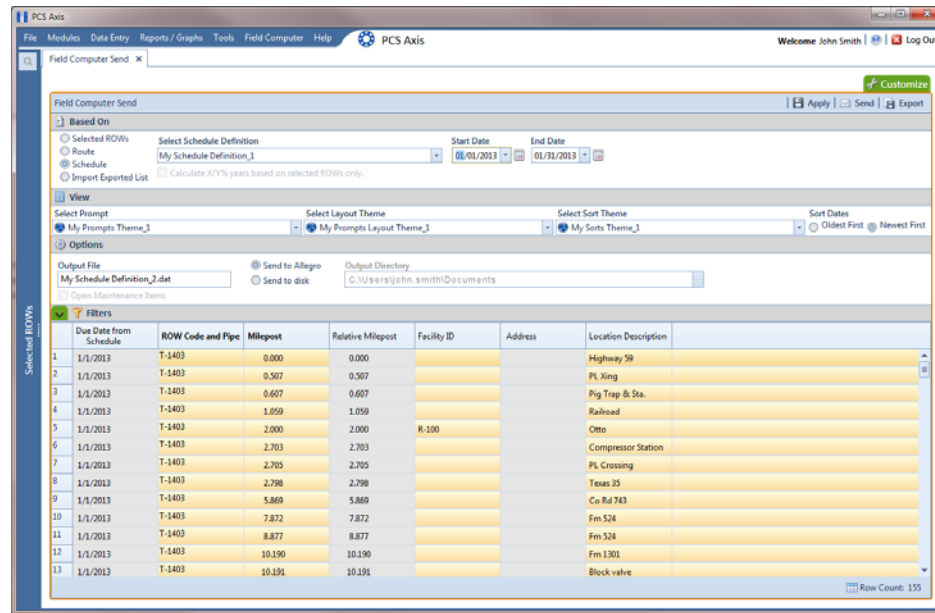

Figure 13-10. Field Computer Send Schedule
- 3 Click **Field Computer** > **Send** to open the *Field Computer Send* window (Figure 13-10, page 529).
- 9 Select a prompt, layout, and sorting theme in the following manner (Figure 13-10, page 529):